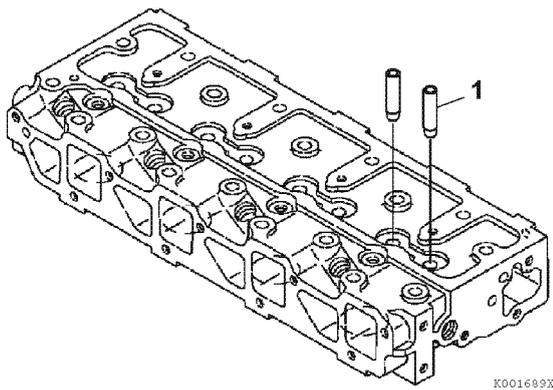

Figure 6-30
2. Immediately after removing the valve guides from the freezer, insert the valve guides (1, **Figure 6-30**) in their proper positions.